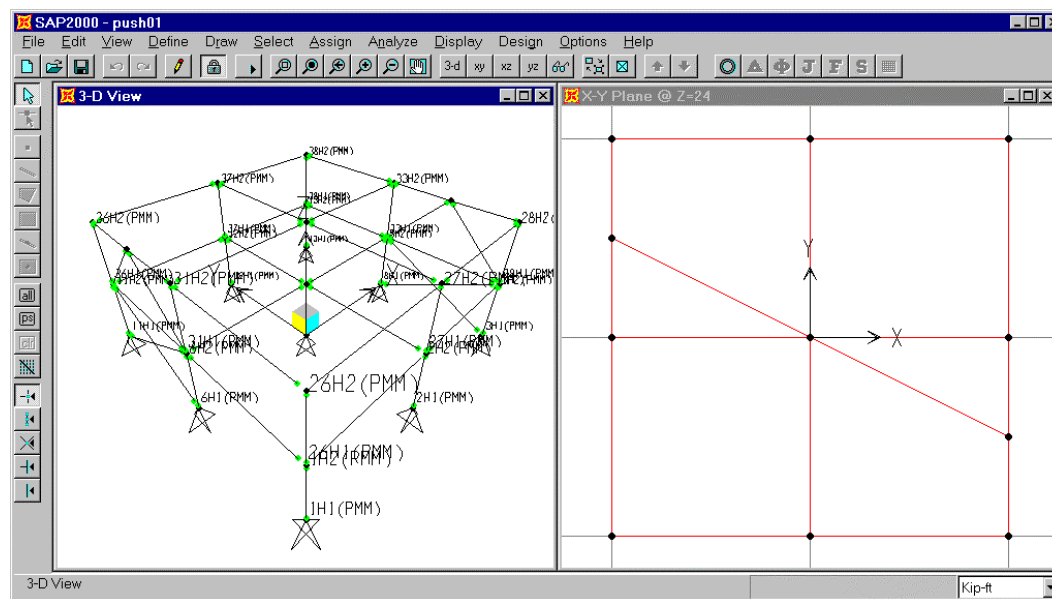

Figure D-1: Model After Assigning Default-PMM Hinges To Columns
- Click the **OK** button to assign the hinge properties. The model now appears as shown in Figure D-1.